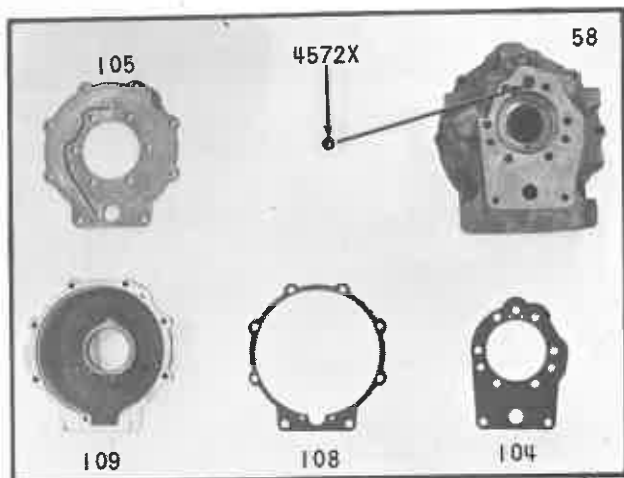
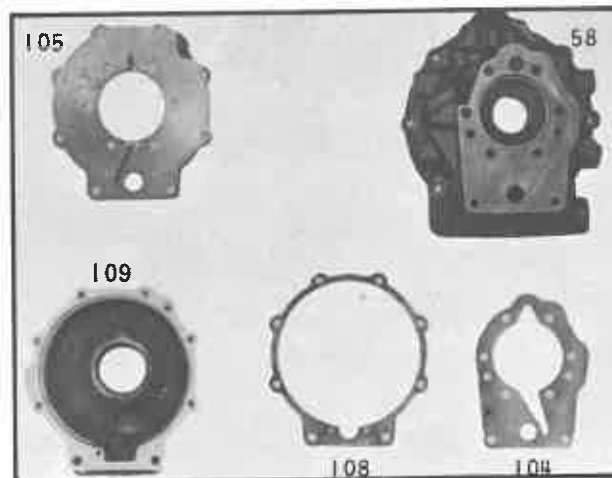
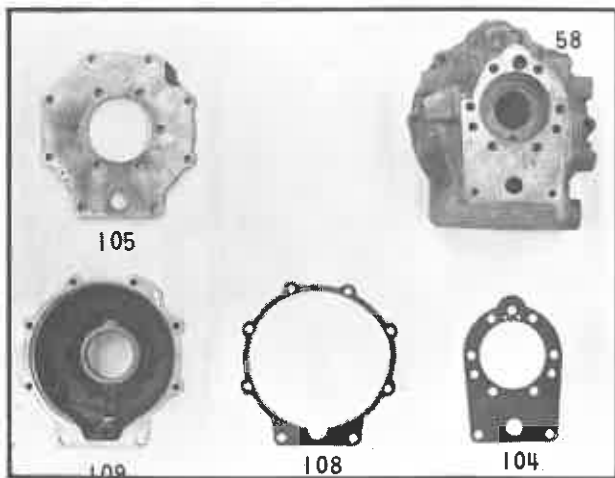

Fig. 7 2.57 & 2.91 Reduction Parts Used with Revised Oil Circulation System
Fig. 7A 2.57 & 2.91 Reduction Parts Used with Latest Oil Circulation System
Fig. 8 2.57 & 2.91 Reduction Parts Used with Former Circulation System
\* NOT CURRENT PRODUCTION, AVAILABLE FOR REPAIRING EARLIER UNITS, (SEE FIG. 8).
The earliest circulation system, with parts shown in (Fig. 8), returned the cooler oil to the reduction housing (Figs. 1 and 12). External identification of this system can be quickly made by examining the transmission reduction housing for a tapped hole in the reduction housing for the cooler oil return. If the reduction housing has no tapped hole, and the cooler oil must be returned to the lower front of the forward and reverse transmission case (Figs. 1 and 11) the transmission has one of the two latest oil circulation systems. These last two oil circulation systems can be differentiated after disassembly by comparing the oil passages with those shown in (Figs. 7 and 7A). The current design (Fig. 7A) is the only one of these two systems for which service parts will be available. When any transmission containing parts as identified in (Fig. 7) is serviced it should be rebuilt with parts as shown in (Fig. 7).
1. With the introduction of the oil circulation characterized by (Fig. 7) the forward and reverse transmission cases were changed, but the part number remained the same. This new case can be used as a replacement for all reduction transmissions, of the various circulation systems, with the same part number. However the old forward and reverse transmission cases cannot be used with a transmission with the revised oil circulation system characterized by the cast oil passage in the reduction unit adapter as shown in (Fig. 7).
The new version of the case has additional metal added to the upper and right side as shown in (Fig. 7)
NOTE: WHEN THE PARTS ARE ASSEMBLED AS SHOWN IN (FIG. 7A) THE BALL BEARING SHOULD ALWAYS BE INSTALLED SO THAT THE GROOVE ON ITS OUTSIDE DIAMETER IS ALWAYS TO THE REAR, VISIBLE FROM THE BACK OF THE TRANSMISSION AFTER INSTALLATION.
With the introduction of the latest oil circulation system, characterized by the parts illustrated in (Fig. 7A), the 4572X orifice plug has been removed from the 3/4" O.D. hole in the rear face of the transmission case. This plug should also be removed from any transmission, represented by parts illustrated in (Fig. 7), when it is rebuilt to the newer version shown in (Fig. 7A).
2. Both adapter gaskets (L4-145 and L4-146) front and rear, respectively, have been changed, but the part numbers remain the same. The new gaskets (Fig. 7A) can be used on all reduction transmissions, but the earlier gaskets (Fig. 8) can only be used in reduction transmissions with the old oil circulation system.
3. Reduction unit adapter (L7-8A) is used on these reduction transmissions with the new circulation system and replaces part (L7-8) used with the old circulation system. These parts are not interchangeable and care must be exercised in ordering the correct part for the transmission. The new adapter may be identified by its oil lubrication passage with drilled .12 hole to supply lubrication to the rear bearing, (Fig. 7A).